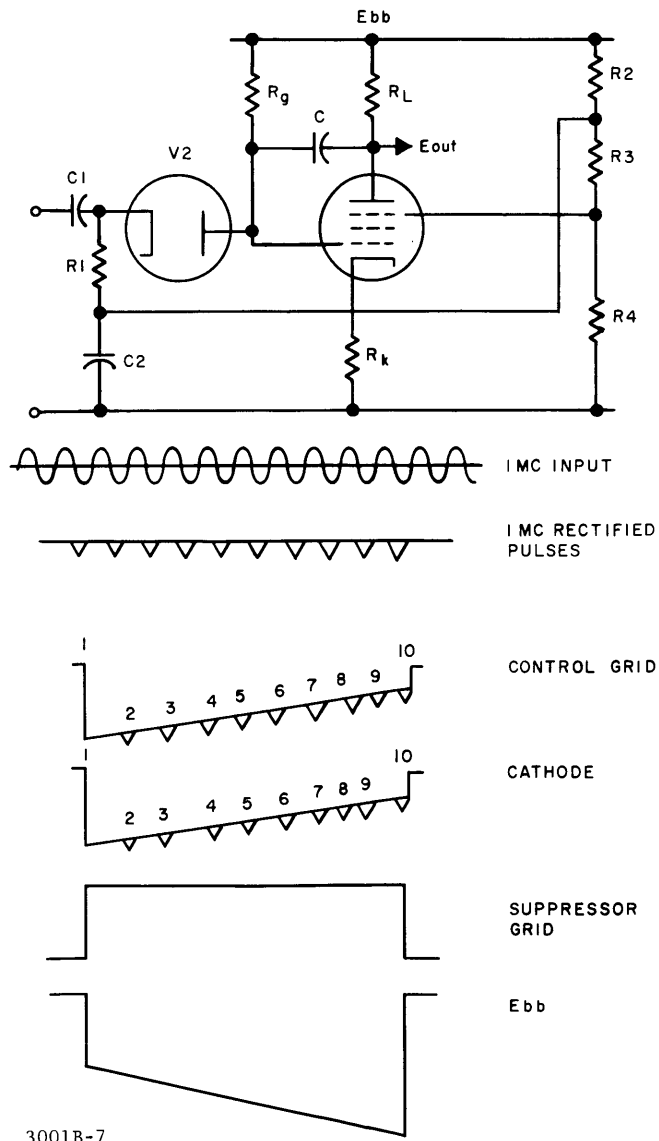

Figure 4-3. Simplified Schematic of Typical Phantastron and Accompanying Waveforms
a. DIVIDER 3101. The 1-kc input signal from the 3200 deck is coupled through J3101 to phantastron divider V3101. Frequency division is accomplished in the HFS-1 unit by phantastrons such as that found in the 3100 deck. Figure 4-3 shows a simplified schematic of a typical cathode-coupled phantastron along with some significant waveforms. To gain an understanding of how a typical phantastron works, refer to this illustration along with the following explanation.